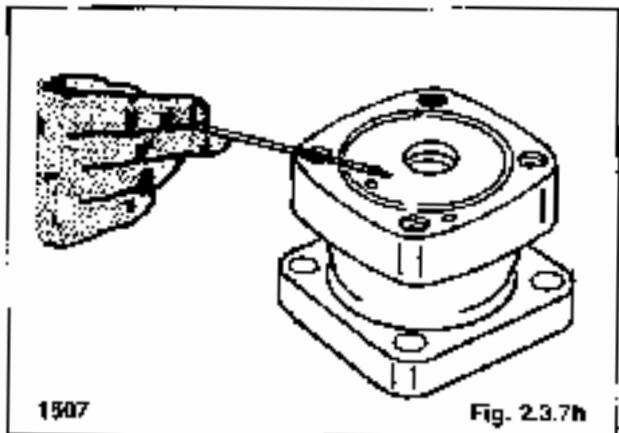

Fig. 2.3.7h
9. Inspect the face of the bearing housing (fig. 2.3.7h) for scratches or wear.